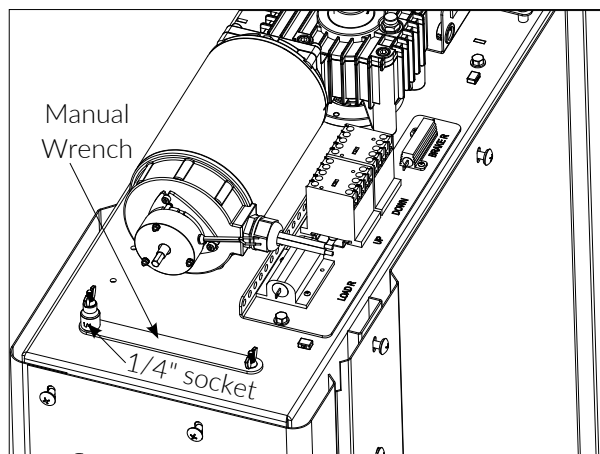

Figure 3-4
4. Remove the two wingnuts holding down the manual lowering tools (1/4" wrench and 1/4" x 3/8" drive socket). **See Figure 3-4.**